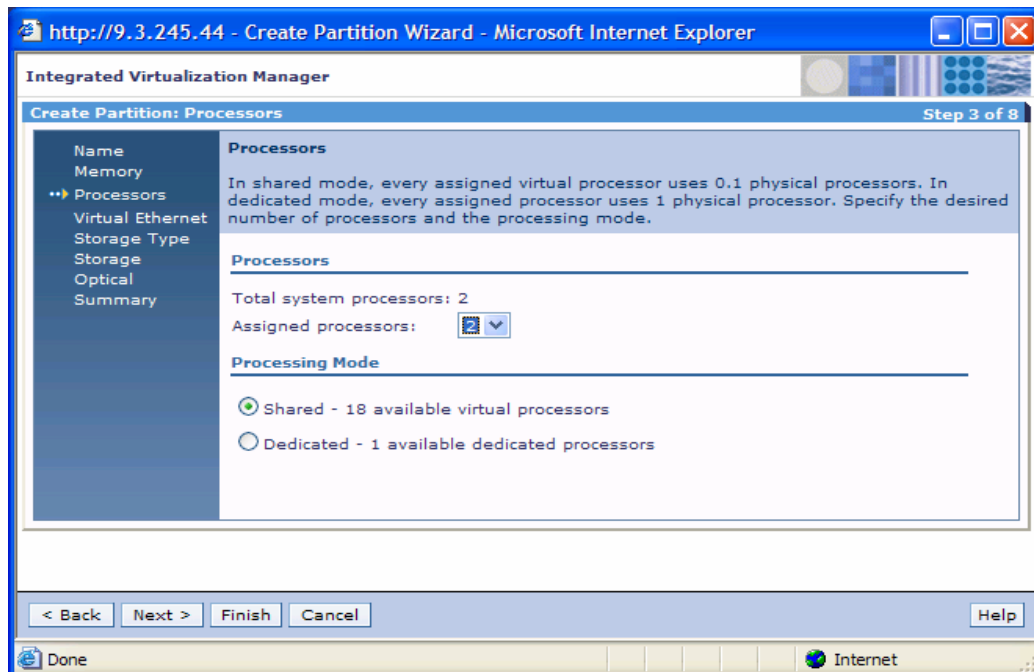

Figure 51. Assigning two processors to the new partition
- Select two processors for this partition and leave the **Shared** radio button selected (see Figure 51). Click **Next**.